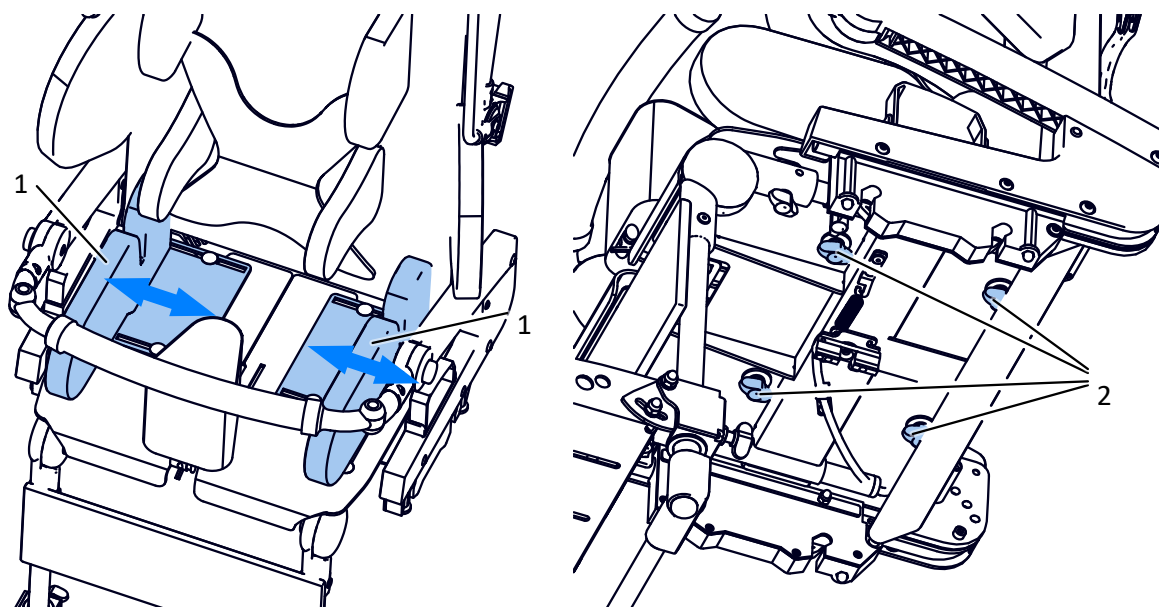

Fig. 20
In order to adjust the pelvic supports (1) loosen the knobs (2) under the seat Fig. 20, and then set the desired position of the pelvic supports (1) and retighten the knobs (2) in order to block the movement of the supports. Position of the right and the left pelvic support is independent, and these chest supports may be set individually.